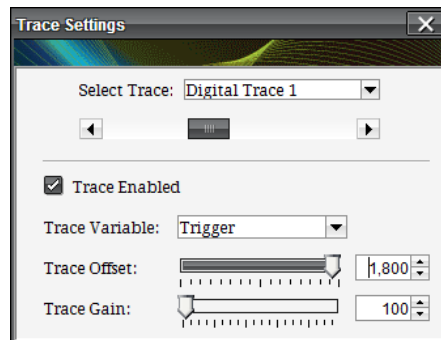

Fig. 7.9: The Trace Settings Window
- **“...” button:** opens the Trace Setting window (**Fig. 7.9**) to set the DC offset and the gain of the traces in the Oscilloscope plot. These settings have no effect on the real input signal, but only on the visualization of the Oscilloscope plot. For this reason it is recommended to adjust only the digital traces offset and gain for a correct visualization.